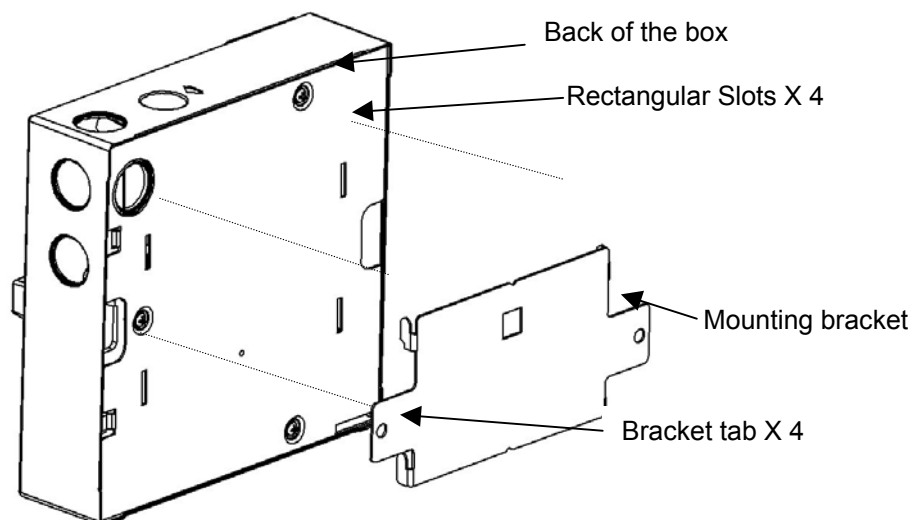

Figure 6 Mounting the Detector onto the Mounting Bracket
- Mount the detector onto the bracket by placing the four rectangular slots located on the rear of the detector onto the four bracket tabs. Refer to Figure 6.